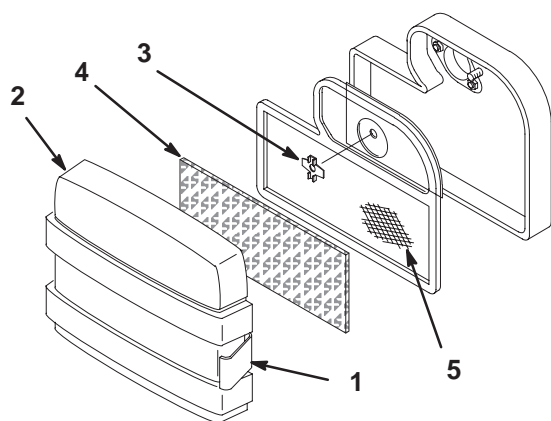

Figure 19
2. Clean around the air cleaner to prevent dirt from getting into the engine and causing damage. Pull out on retaining latches and remove the air cleaner cover (Fig. 19).
3. Unscrew nut and remove the air cleaner assembly (Fig. 19).
4. Carefully pull the foam element off the paper element (Fig. 19).
1. Carefully place the foam element onto the paper air cleaner element (Fig. 19).
2. Place the air cleaner assembly onto the air cleaner base (Fig. 19). Secure with nut.
3. Install the air cleaner cover and secure latches (Fig. 19).